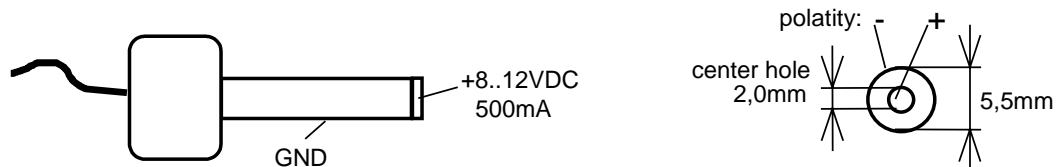

Figure 3: Power Connector
- Using the supplied power adapter, connect the power socket on the board (P3) to a power supply (refer to Figure 3 for the right polarity).